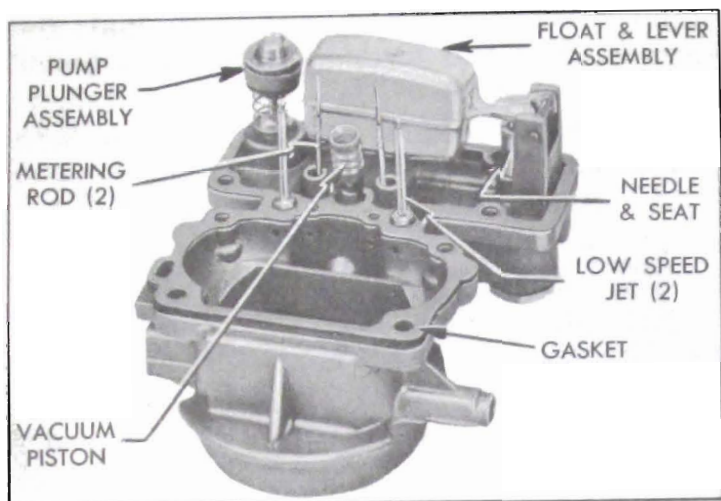

Figure 3-33—Air Horn Parts
7. Remove air horn screws. Remove air horn, using care to avoid damaging float. Swing vacuumer piston $\frac{1}{4}$ turn to remove it from vacuumer link, then remove link from air horn. Leave metering rod spring in link. See figure 3-33.
8. Remove float lever pin and lift off float assembly. Shake float to see if it is "loaded" with gasoline due to a leak. Remove float needle seat, and gasket. Remove both low speed jets from air horn. See figure 3-33.